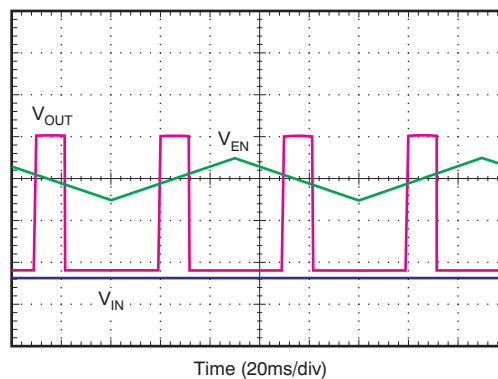

Figure 30. Enable Pin Positive and Negative Threshold
The TPS7A30 provides a dual polarity enable pin (EN) that turns on the regulator when $|V_{EN}| > 2$ V, whether the voltage is positive or negative, as shown in Figure 30.